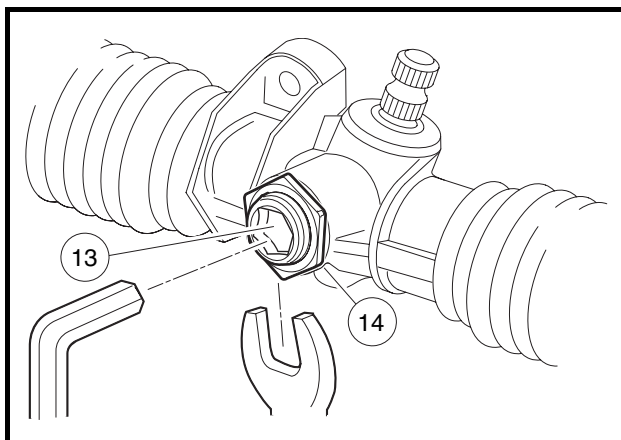

Figure 7-12 Rack and Pinion Adjustment
13. If measured resistance is not 7 to 15 in-lb (.8 to 1.7 N·m), adjust the screw (13) until correct setting is achieved. Tighten the nut (14) to 28 ft-lb (38 N·m) (**Figure 7-12, Page 7-9**).
NOTE: When tightening the nut (14) make sure the screw (13) does not change adjustment (**Figure 7-12, Page 7-9**).